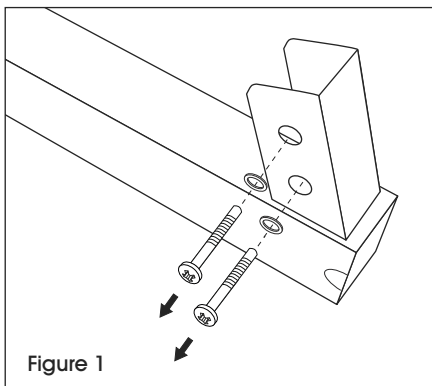

Figure 1
1. Remove the included washers and bolts from the frames, using the included 1/4" Allen wrench. (See Figure 1)
1. Retirez les rondelles et boulons des socles à l'aide de la clé Allen de 1/4 po incluse. (Voir Figure 1)